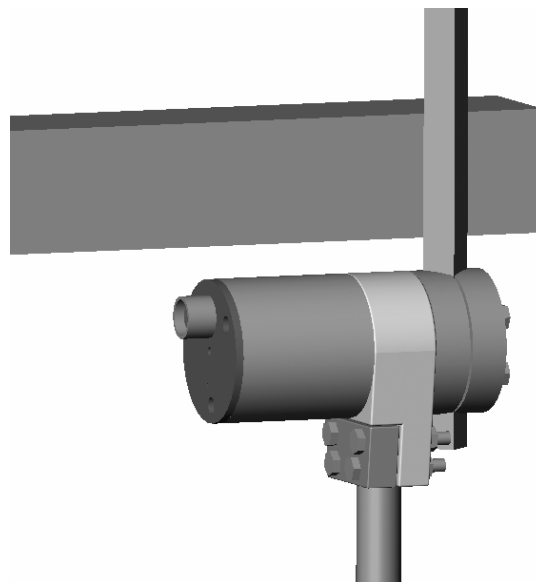

Figure 3 - Fixing the sensor under the scraper blade arm
- The sensor body may be mounted underneath the scraper blade arm (Figure 3) or above the scraper blade arm (Figure 4). In both cases the body should be as far out of the mix as possible in order to keep it reasonably clean and minimise wear.